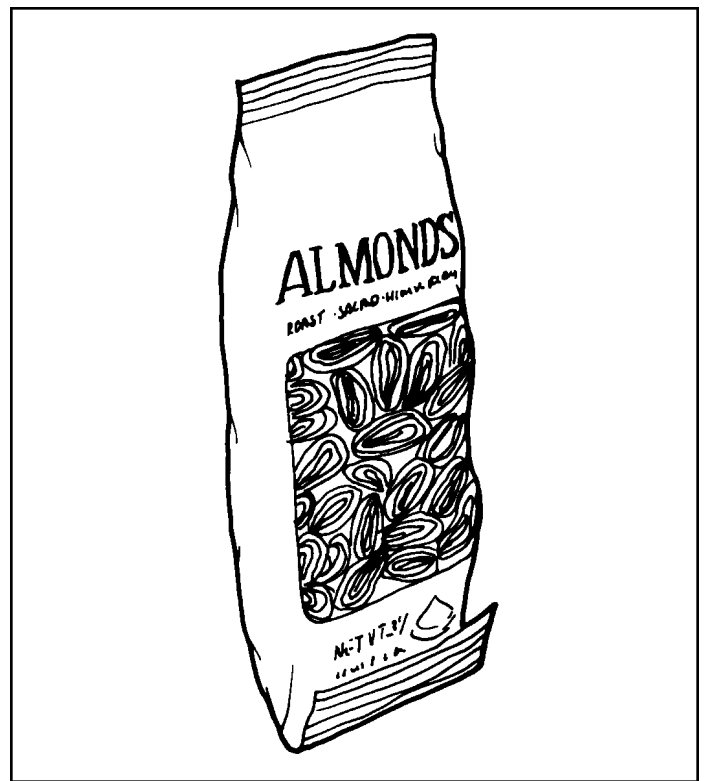

Figure 8. Fold bagged items bottom edge forward and up.
9. **Bagged or Boxed Items** in the 10-selection shelves, if not loaded properly, could be a problem. The sealed edge of the bag may get under the spiral wire causing the product to hang up after it has been vended. It is recommended that the lower edge of these types of product be folded forward and up (Figure 8.) next to the product before inserting into the spiral space. It is also recommended to use an 18 count spiral for bagged items because of the product settling to the bottom of the package.